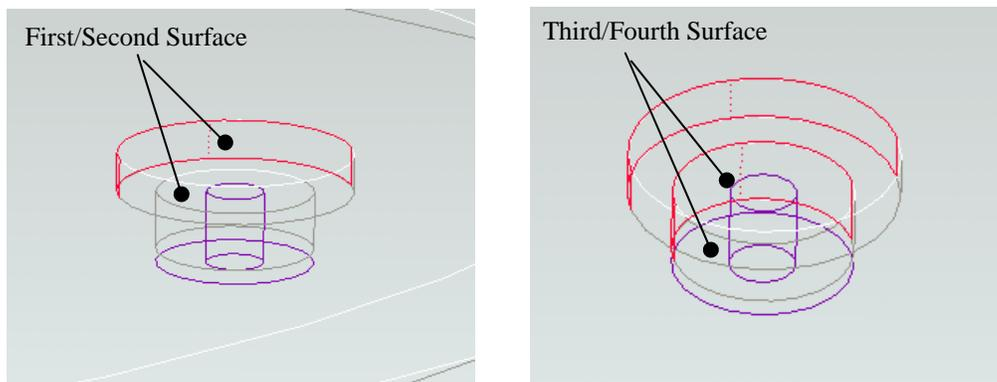

Figure 12: Choose the Surfaces to Profile.
- Step 10:** Choose the interior vertical surfaces of the first hole shown in Figure 12. Be sure to select both sides of the hole. Use Ctrl to select multiple surfaces. Then add the surfaces of the second hole. (4 surfaces per hole, 8 total)